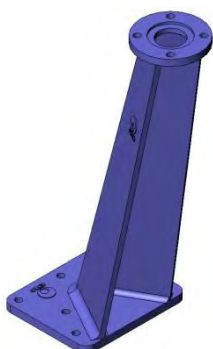

fig. 4
- Leaning floor stand (fig. 4)